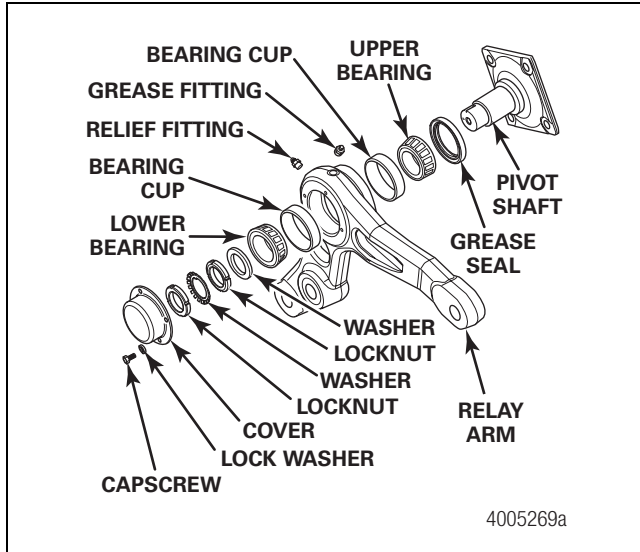

Figure 7.20
20. Repeat the procedure to assemble the relay arm. Figure 7.20.